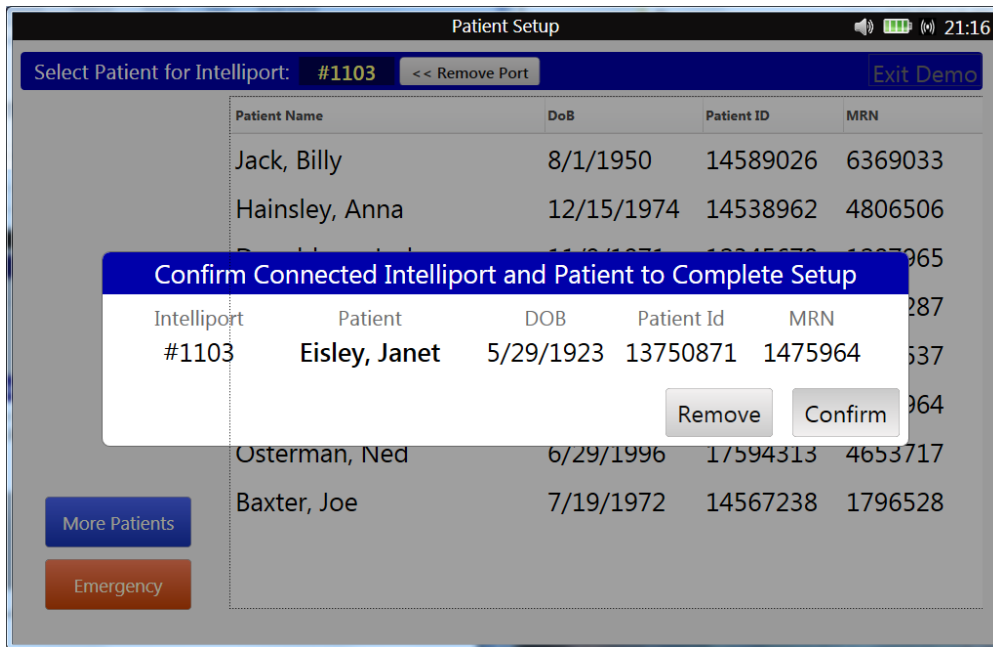

Figure 18 Confirm Patient Association
- Press the “Confirm” button to complete the setup. (IFU 027)Should any part of the association be incorrect, there is an opportunity to press the “Remove” button and repeat the patient identification step process. (Figure 18) Once confirmed, the Anesthesia System has established a permanent association between the patient and Intelliport Sensor. The Intelliport Sensor can only be paired with one patient.